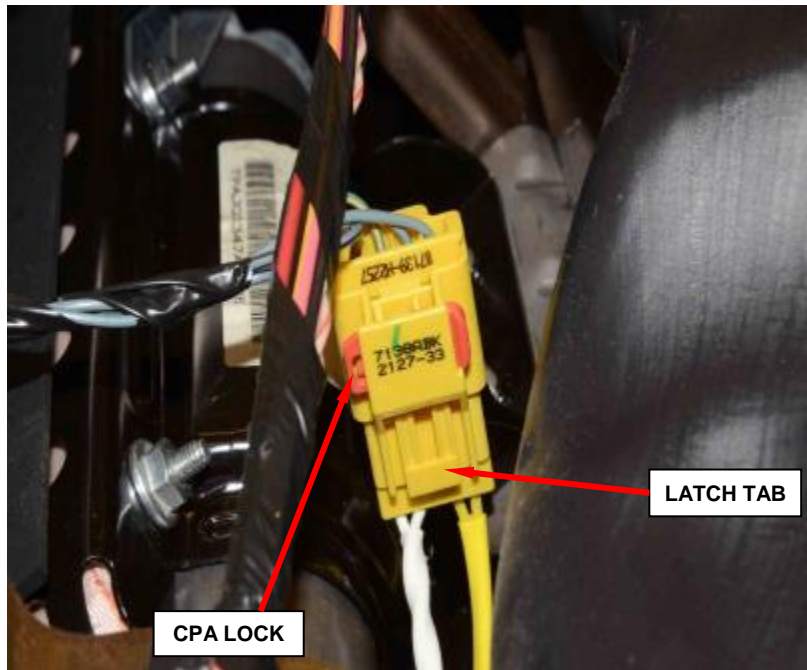

Figure 103 - Airbag Inflator Pigtail Connector
a. Slide the red Connector Position Assurance (CPA) lock on the connector toward the side of the connector (Figure 103).